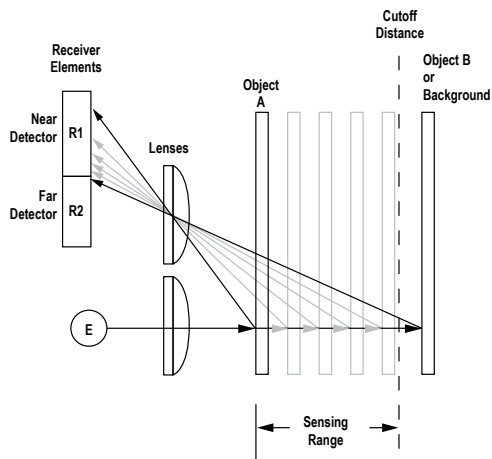

Figure 1. Adjustable field sensing concept
The Q60AF compares the reflections of its emitted light beam (E) from an object back to the sensor's two differently-aimed detectors R1 and R2 (see Figure 1 on page 2). If the near detector (R1) light signal is stronger than the far detector (R2) light signal (see object A, closer than the cutoff distance), the sensor responds to the object. If the far detector (R2) light signal is stronger than the near detector (R1) light signal (see object B, object beyond the cutoff distance), the sensor ignores the object.